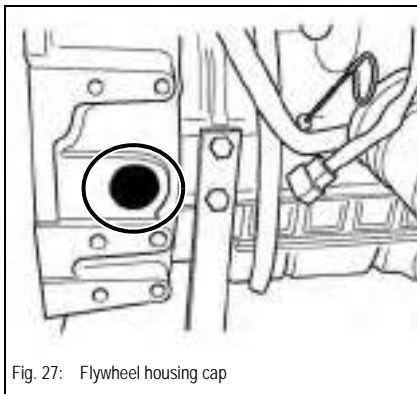

Fig. 27: Flywheel housing cap
- ☞ Remove the cap on the flywheel housing, see Fig. 27